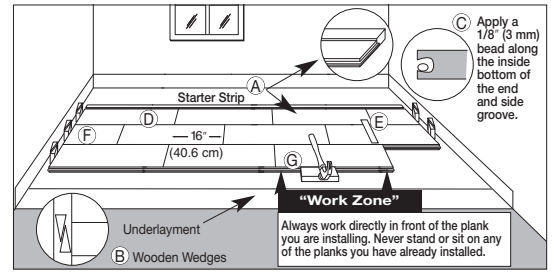

Figure 12
- Select the first board. All installations should begin with the groove side against the wall using the longest boards available. Apply a continuous 1/8" (3 mm) glue bead to the inside bottom of the groove on the end of the board. Do not apply glue to the groove side at this time (Item C, Figure 12). Products with the end tongue on the left should be installed right to left, opposite tongues should be left to right (Item D, Figure 12). If a sacrificial board was used DO NOT glue the first row to it.
- Complete the first row. Cut the last board allowing for 1/2" (13 mm) clearance between the wall and the floor. (Use the remaining end of the cut board as a starter board for any row following row three). Install a wedge on the end of the board between the hardwood flooring and the wall, allowing 1/2" (13 mm) expansion space. Avoid installation of any boards shorter than 16" (40.6 cm) in the first four rows (Item F, Figure 12).
- Use a pull bar to pull the last board into place from the opposite end. Install wedges into the gap and tighten (Item B, Figure 12).
- Cut or use a shorter board for the first board of the second row. Start the second row by applying a 1/8" (3 mm) bead along the inside bottom of the end and side groove of the new board. Install the first board of row two. Apply a bead of glue to the inside bottom of the end and side groove of the next board and install. When installing boards together, use a tapping block against the tongue, not the groove (Item G, Figure 12). Tap the boards into place by tapping with a hammer on the tapping block. DO NOT tap on the edge directly with the hammer. Complete the second through fourth rows using this technique. Insert wedges on the ends, as necessary, to restrain the movement of the floor.